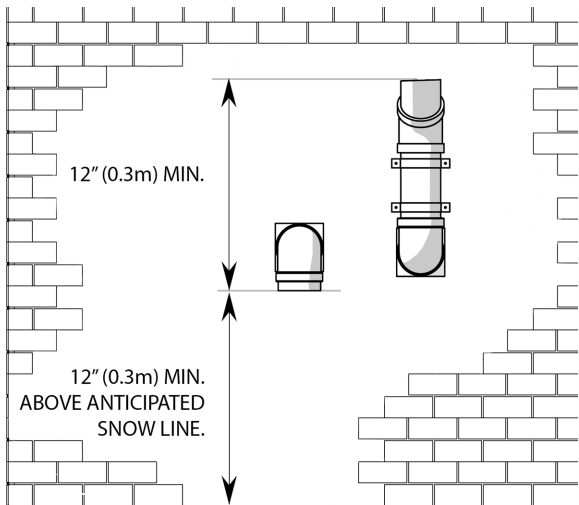
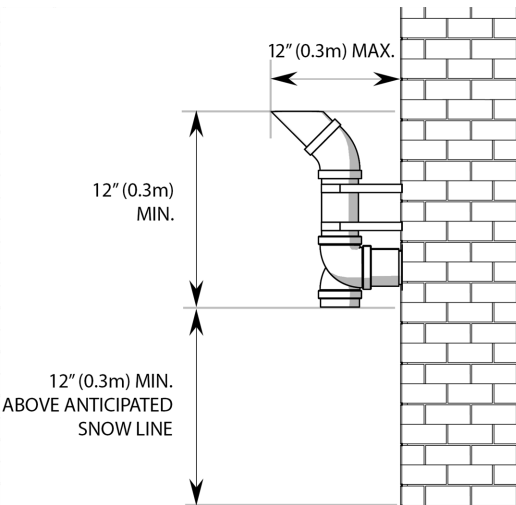
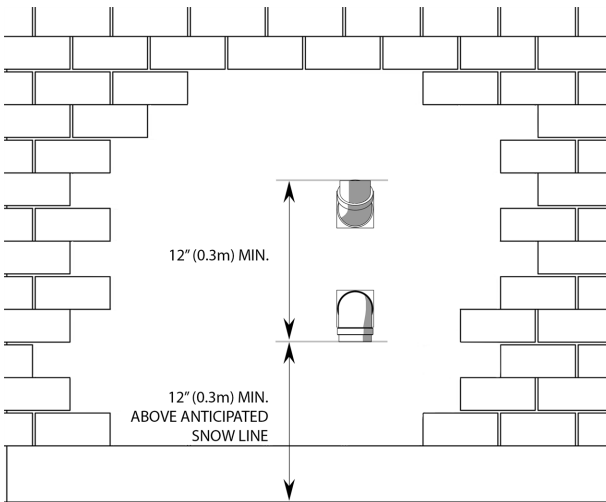
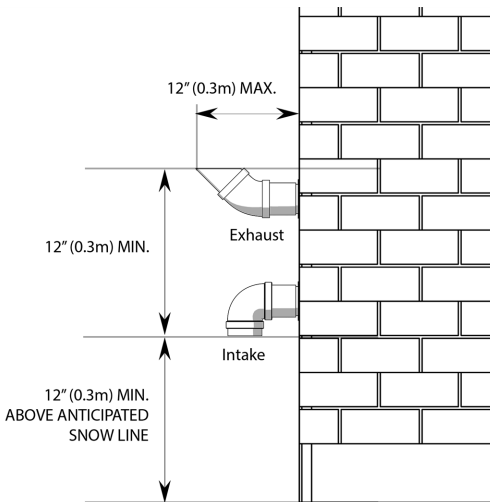

Figure 12 Vent termination clearance--horizontal perforations
Figure 13 Vent termination clearances--horizontal perforations, side view
Figure 14 Vent termination clearance--vertical alignment
Figure 15 Vent termination clearances--vertical alignment, side view
- » (Optionally) Raise the elevation of exhaust termination "periscope style" after passing through the wall, to gain the required clearance as shown in Figure 12 and Figure 13.
- » Use a 45° elbow on the exhaust termination to launch the plume up and off the sidewall (for protection of wall). A short piece of venting cut at 45° gives a horizontal termination protected from wind loads (see Figure 13, and Figure 15).
**Important!:** Maintain at least the minimum separation of exhaust vent termination from boiler intake air as illustrated in Figure 12, Figure 13, Figure 14 and Figure 15.